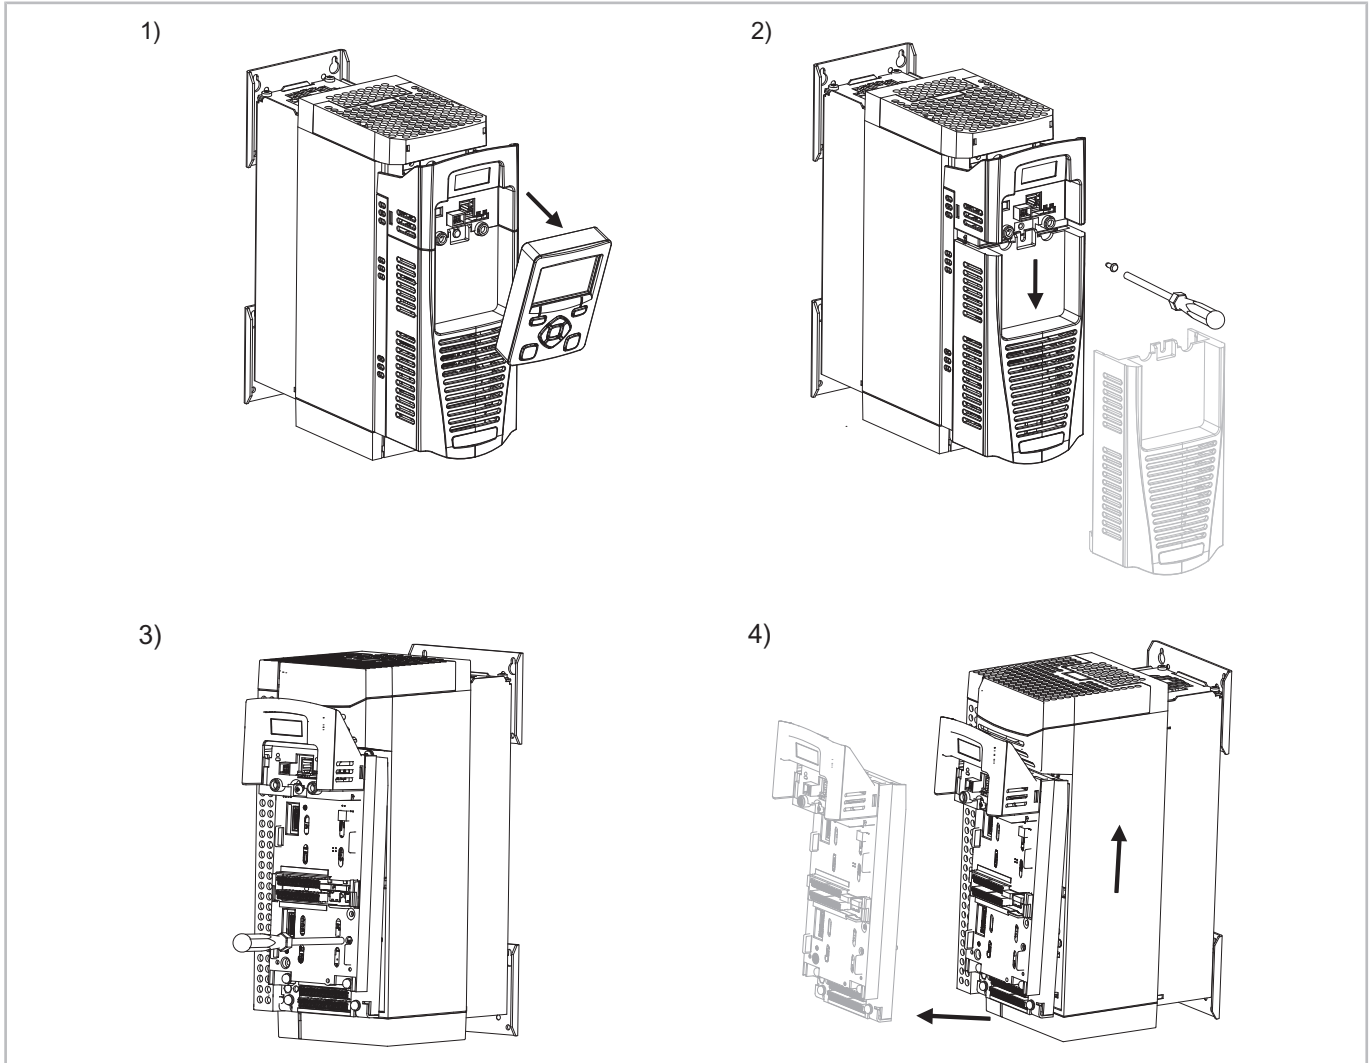
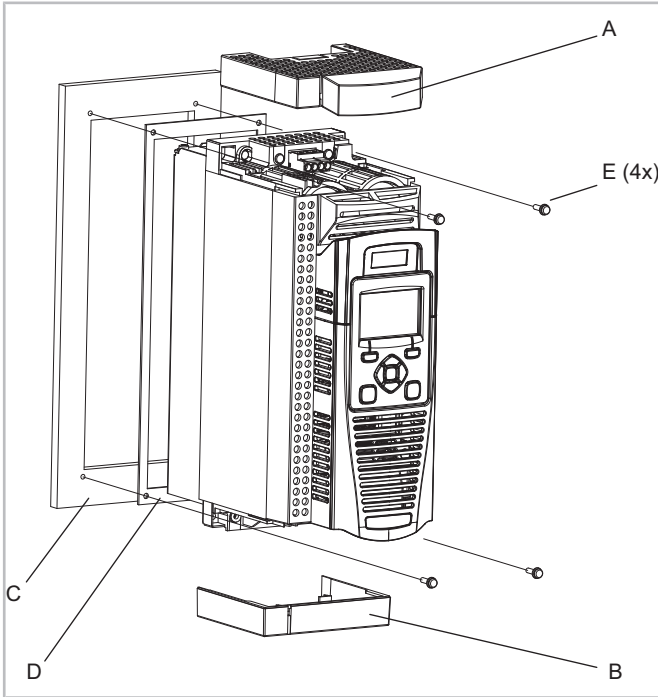

Fig. 7: Dismounting the control module
Fig. 8: Detailed view of the through-switch cabinet mounting (example FDU)
Graphical explanations, see figure 7, page 12 and see figure 8, page 13.
To allow the upper housing cover to be slid forward and dismantled, with these types the control module must be dismantled (see figure 7, page 12).
Dismounting the control module (see figure 7, page 12):
With these types, the control module does not need to be dismantled, in order to take off the housing cover (see figure 8, page 13).
- Introduce the screwdriver into the slot of the lower housing cover (B) and press it slightly towards the left. This will open the lock.
- In the accessories kit: Place the delivered gasket (D) around the frequency inverter in such a way that the free space between the switch cabinet wall (C) and the FI is sealed airtight.
- Mount the VARIPACK frequency inverter to the switch cabinet wall using 4 fixing screws (E) (see figure 8, page 13).
FDU the control module must be dismantled (see figure 7, page 12 and see page 11).